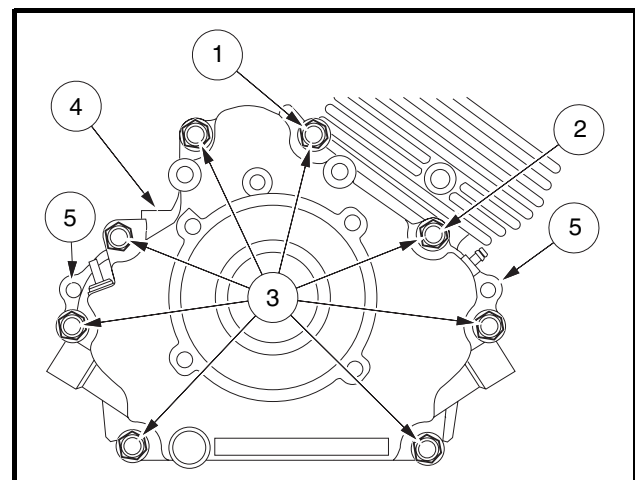

Figure 13-3 Crankcase Cover
2. Remove nuts and clamps at two-ended bolts (1 and 2) (**Figure 13-3, Page 13-4**).
3. Remove eight bolts (3) and remove the crankcase cover (4). **See following NOTE.**
NOTE: If the crankcase cover sticks, tap lightly with a plastic mallet on alternate sides near the dowel pins (5) (**Figure 13-3, Page 13-4**).